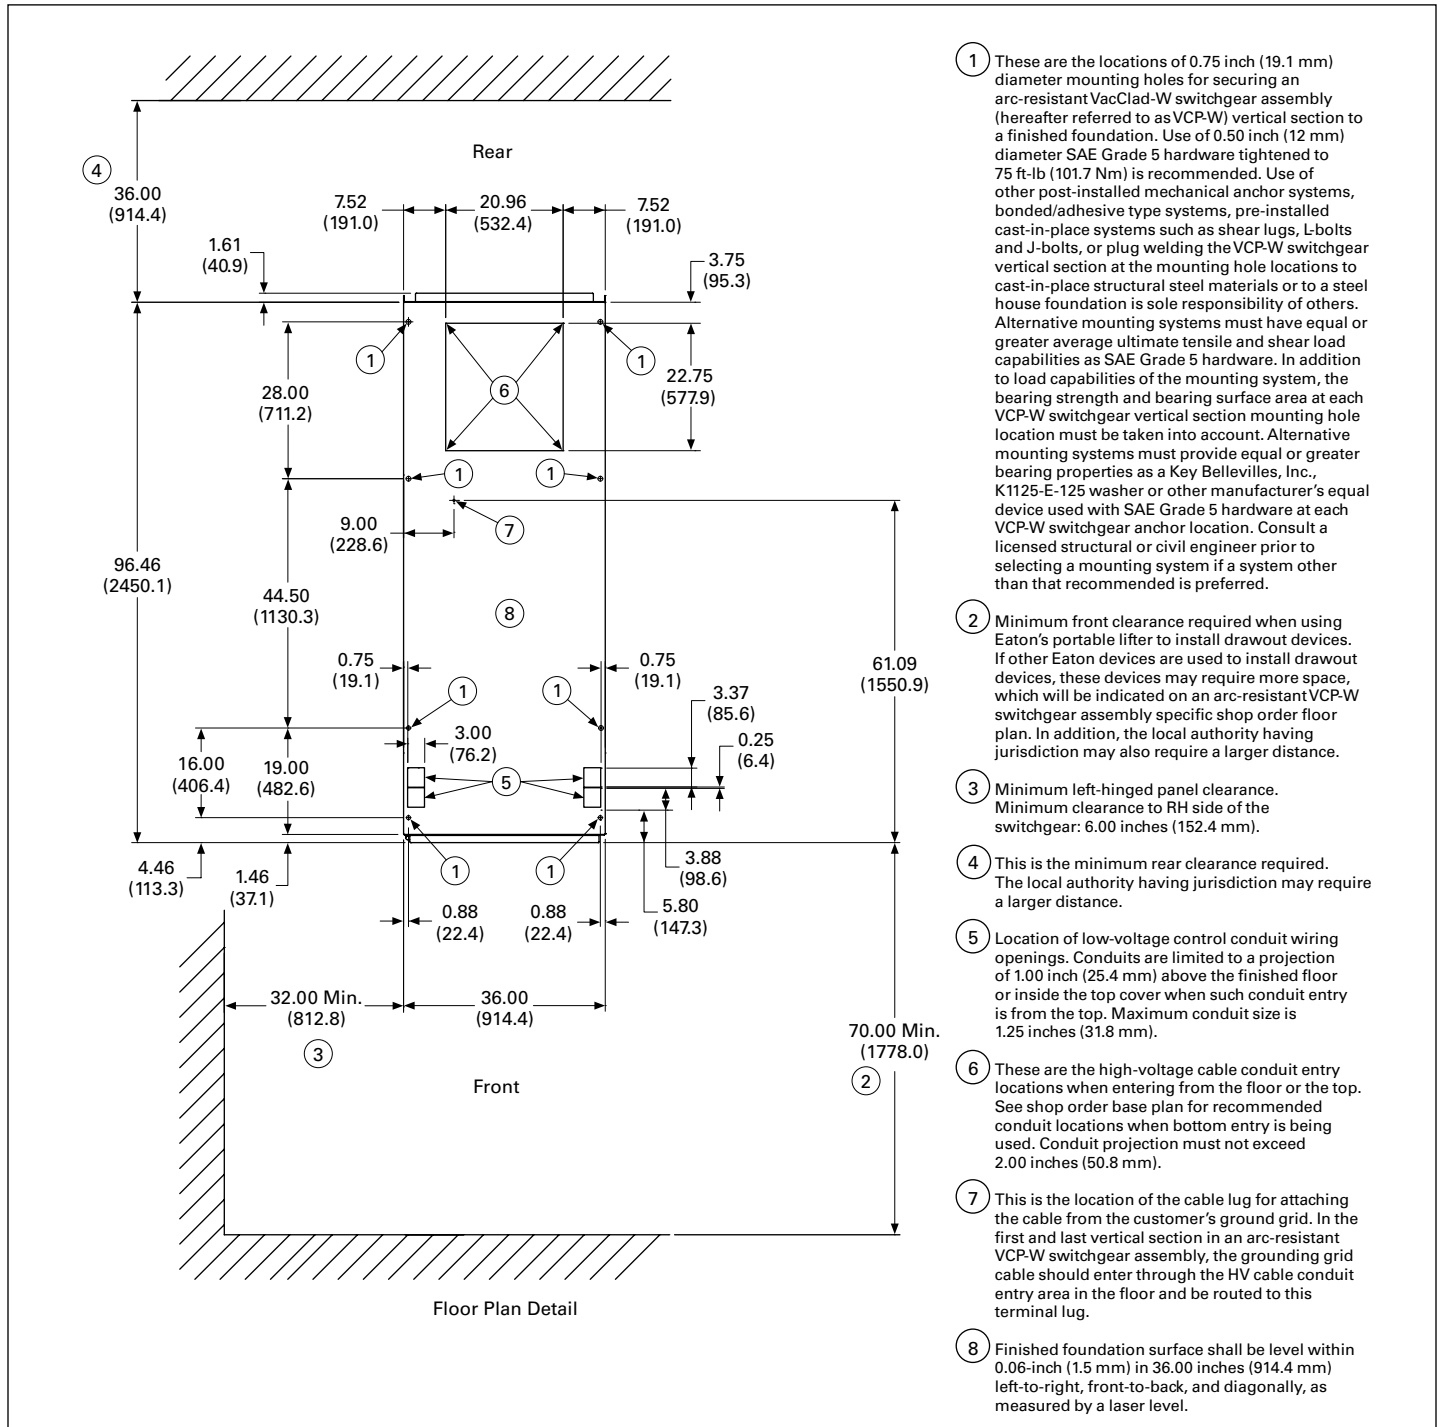

Figure 5.3-26. Typical Arc-Resistant Switchgear Floor Plan—5 and 15 kV
4. Refer to **Figure 5.3-21** to **Figure 5.3-26** for dimensions.